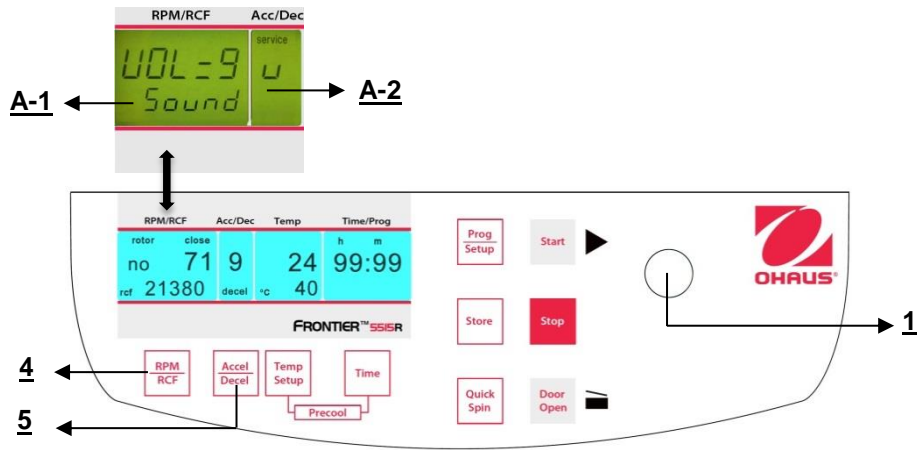

Figure. 34
Proceed as described under point 4.1.2 to enter this program mode and then press the key "Accel/Decel" (5). In the display "Acc/Dec" (A-2) the word "Service" flashes. Now select the letter "U" with the adjusting knob (1). As a result, in the display "RPM | RCF" (A-1) the words "Vol=0- 9/Sound" appear. After pressing the key "RPM | RCF" (4), you can adjust the desired volume between 0 (low) and 9 (loud) with the adjusting knob (1) (See figure 34).